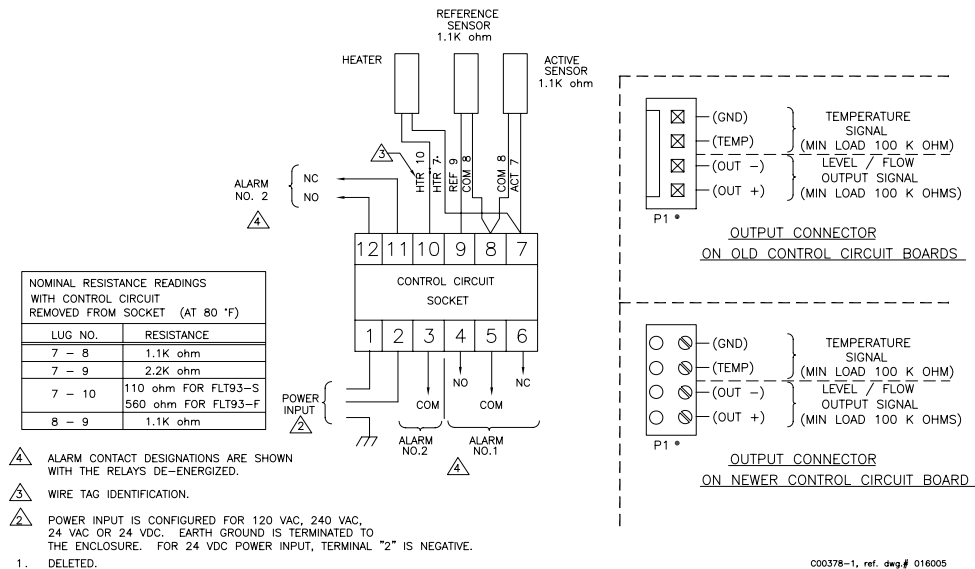

Figure 2-5 Local Wiring Diagram
3. When connecting the relay wiring, do so with complete understanding of what the process requires of the instrument. The instrument has dual SPDT or single DPDT relay output contacts dependent on the jumper configuration for each alarm switch point. For the relay logic, refer to Figure 2-5. Also refer to Table 3-5 and Table 3-6 in Chapter 3 - Operation. Relay contacts are shown with the relays de-energized. Wire in accordance with the system requirements.
When connecting the relay wiring, do so with complete understanding of what the process requires of the instrument. The instrument has dual DPDT or single 4PDT relay output contacts dependent on the jumper configuration for each alarm switch point. For the relay logic, refer to Figure 2-5. Also refer to Table 3-5 and Table 3-6 in Chapter 3 - Operation. Relay contacts are shown with the relays de-energized. Wire in accordance with the system requirements.
Two output signals are provided on the control circuit at P1. The signal voltage at positions 1 and 2 represents the process change. The signal voltage at positions 3 and 4 is proportional to the temperature at the sensing element. See Figures 2-5 through 2-7. See also Chapter 3 for the physical layout of the control circuit.